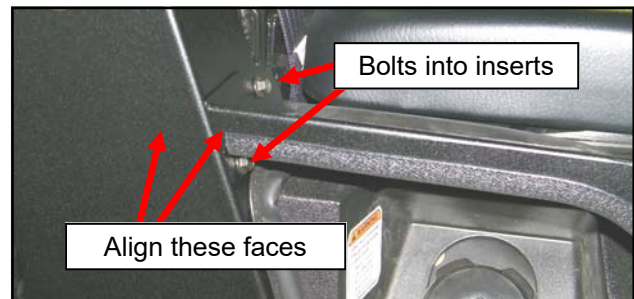

Fig. 14.1 (Fuel filler cover)
14.1 Per figure 14.1, place the fuel filler cover panel onto the right side B-pillar and insert (2) 1/4-20 bolts into the threaded inserts. Align the outer flange of the fuel filler cover to the side of the B-pillar and tighten the bolts.